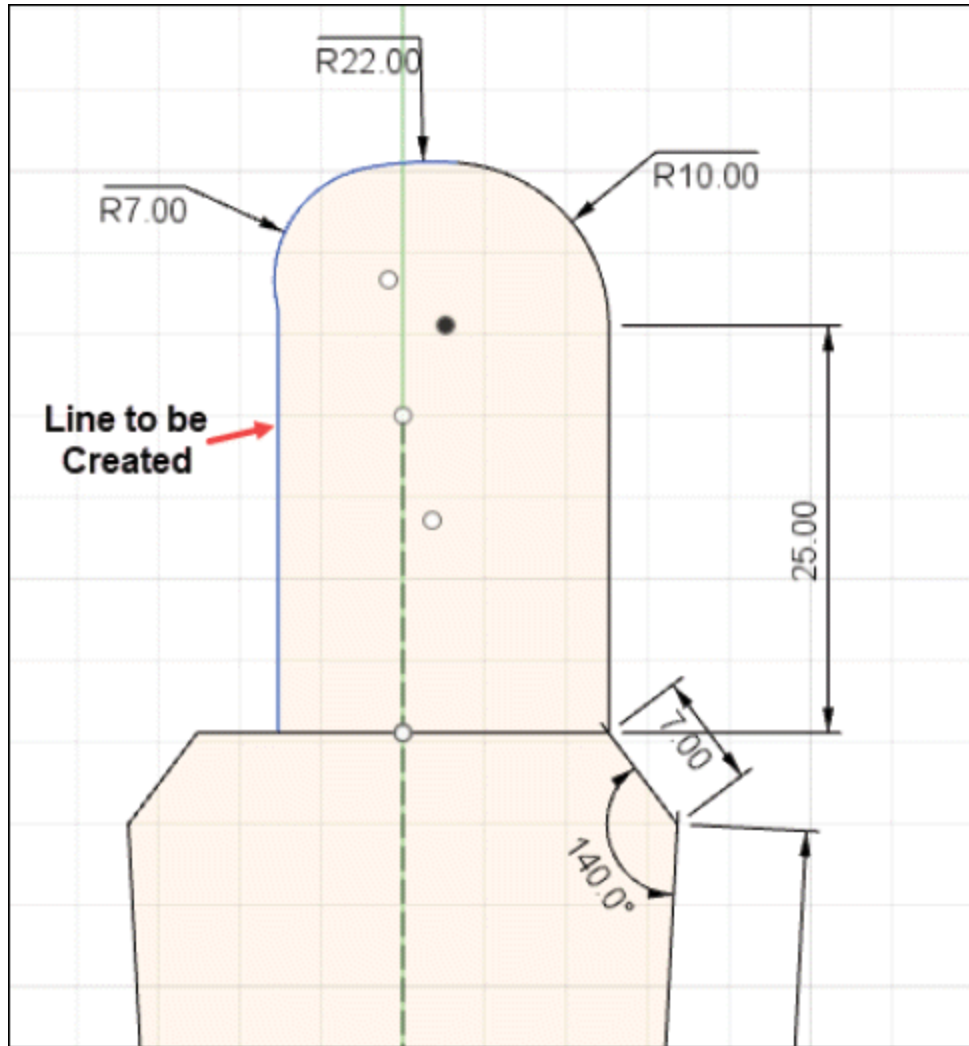

Figure-131. Line to be created
- Select the **Line** tool and create a line joining end of recently created arc to horizontal line in the sketch; refer to Figure-131. Press **ESC** tool to exit the command.